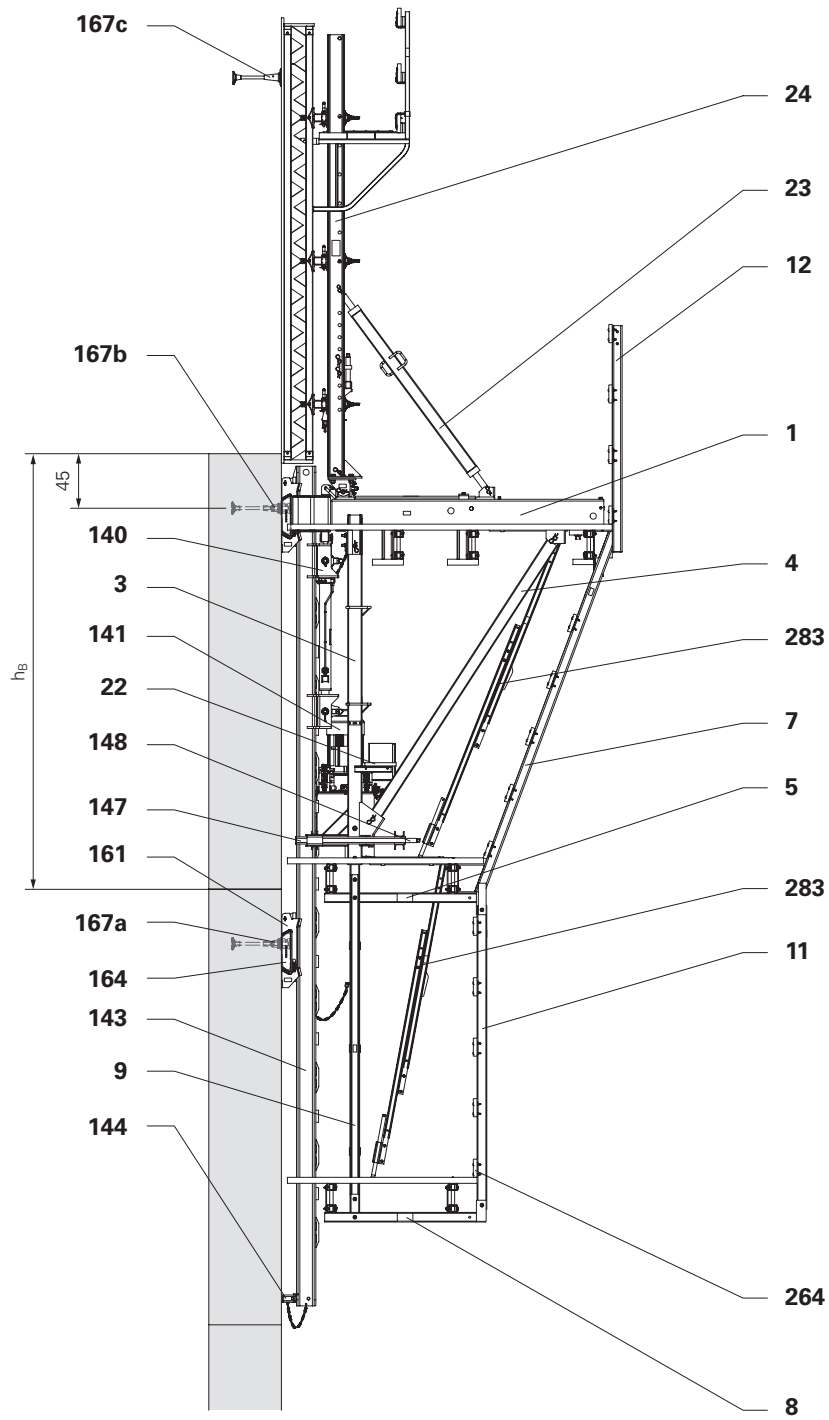

Fig. A1.01
- Concreting height (h_B) = 4.2 m. (Fig. A1.01)